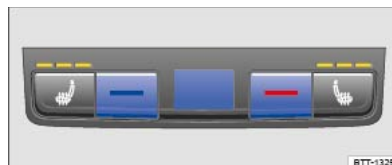

Fig. 111 In the rear centre console: controls for the rear seats.
- Press the  and  ⇒ Fig. 111 buttons to set the temperature.